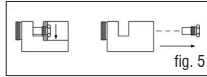

fig. 5
- 10) Unscrew the compass (Pos.7) with a 12 mm socket wrench and remove it from the body (fig. 5)